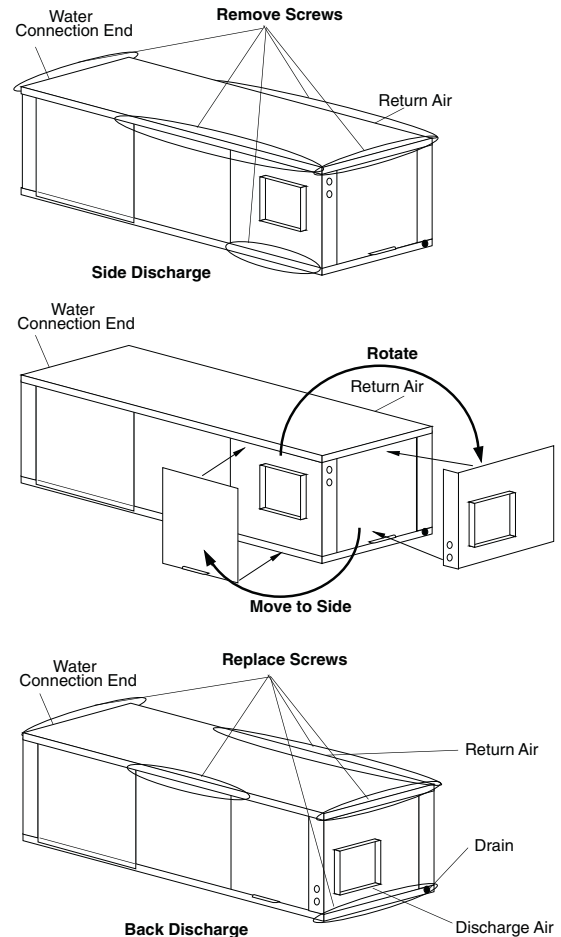

Fig. 5 — Conversion Left Return, Side Discharge to Back Discharge
between side and back discharge in the field. The conversion process is the same for right and left return configurations. See Fig. 5 and 6.
1. Remove screws to free the top and discharge panels. See Fig. 5.